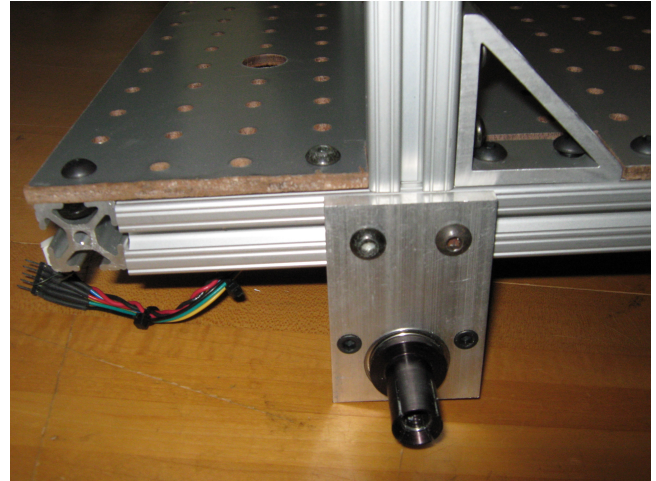

Figure 12: Attach the motors to the sides of the robot, directly underneath the rollbar.
11. Mount a motor to each side, using the two sliders placed there previously. Mount them directly underneath the rollbar, as in Figure 12. Try to ensure that your robot's motor shafts are collinear (why?).